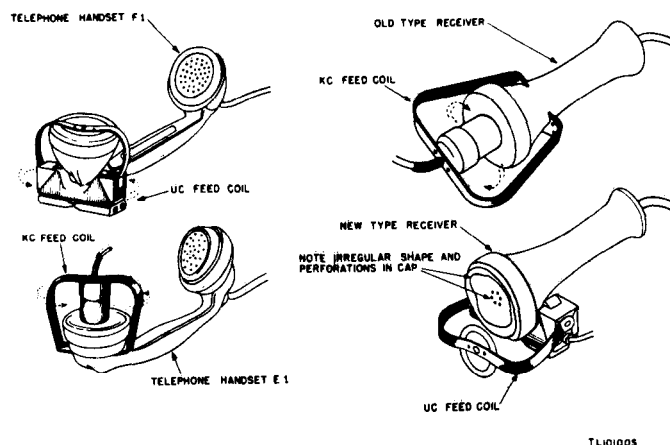

Figure 12. UC coupling coil attached to telephone headsets.
e. Use of UC Coupling Coil (fig. 6). When inductive coupling to a telephone line is required, use the UC coupling coil furnished with Facsimile Set AN/TXC-1(*) except with Facsimile Set AN/TXC-1D. This coupling (feed) coil is designed to fit over the receiver of the handset used on Telephone EE-8 and other telephone handsets (fig. 12). The coil is fitted into place and the plug at the end of the cord from the UC coupling coil is connected to the polarized LINE JACK (J5) on the transceiver terminal strip. Approximately 30 db is lost when using this method of connection. When using a line of Wire W-110-B or WD-1/TT between transceivers, if there signal voltage is required than that obtained by using